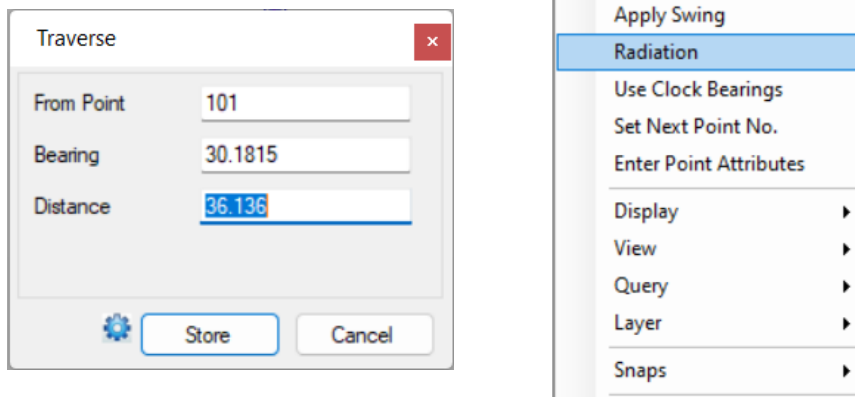

Figure 9 - Traverse Entry and the Right Click Menu.
- Right click and select Layer>>Change Layer to open the Change Layer dialogue. Make sure REFERENCE is highlighted and press the STORE button. See Figure 9 below.